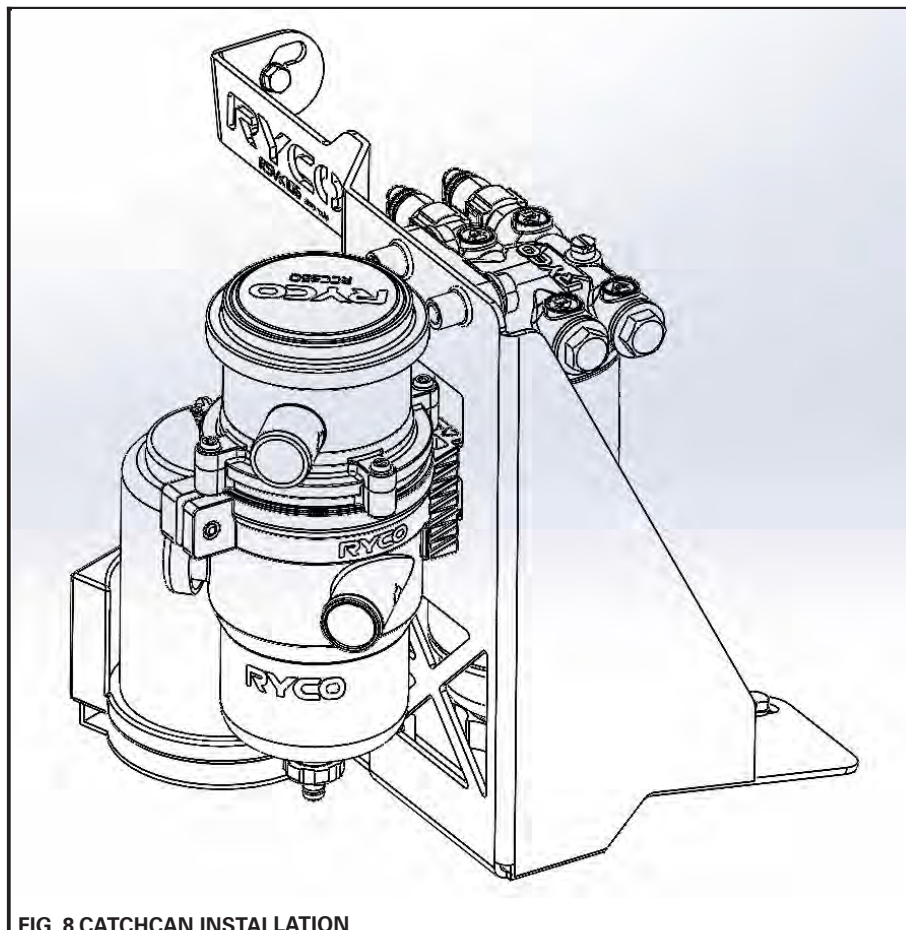

FIG. 8 CATCHCAN INSTALLATION
1. Mount the catchcan onto the bracket by sliding the RCC351 nylon bracket onto the catchcan mounting position so it sits behind the factory airbox. Rotate the RCC351 counter clockwise so the ports are facing toward the engine PCV valve and tighten the plastic bracket retaining screw, as per Fig.8 below.